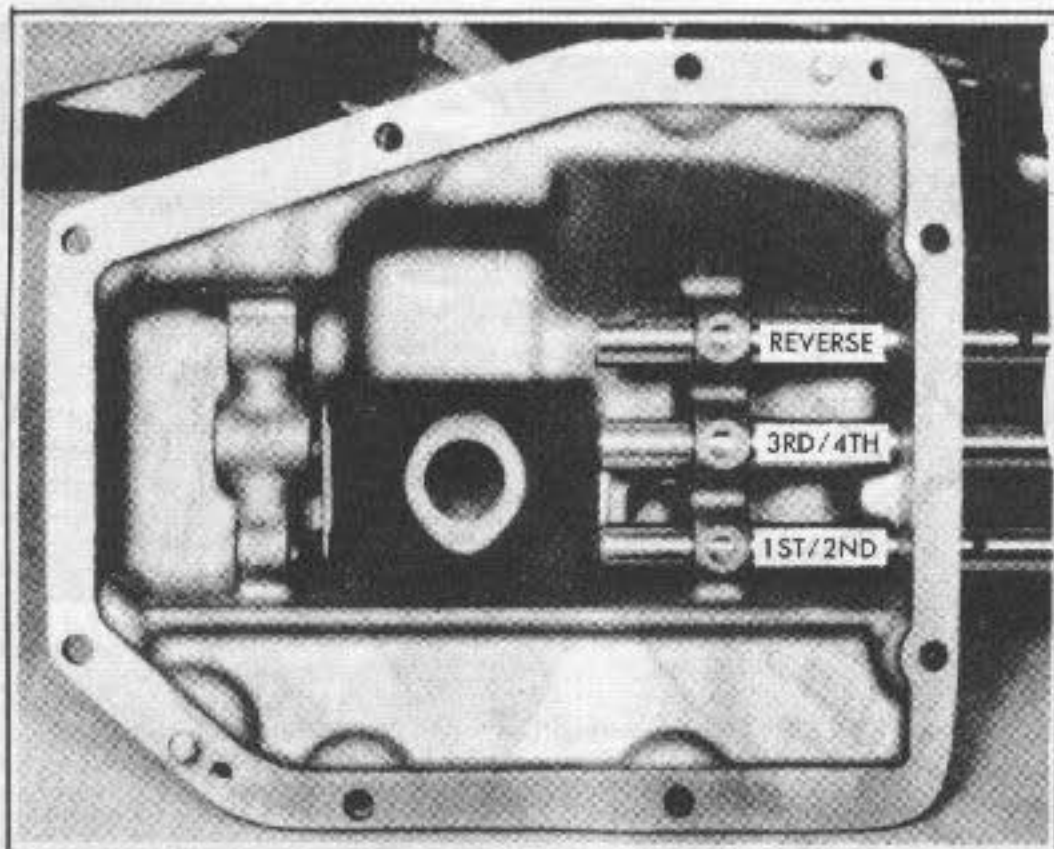

Fig. 7B-7L-Shifter Shaft Installation
4. Support front surface of retainer in press, start seal and tool in retainer bore and drive seal into retainer until flange of tool bottoms on retainer (Fig. 7B-13L).
### Disassembly (Fig. 7B-14L)